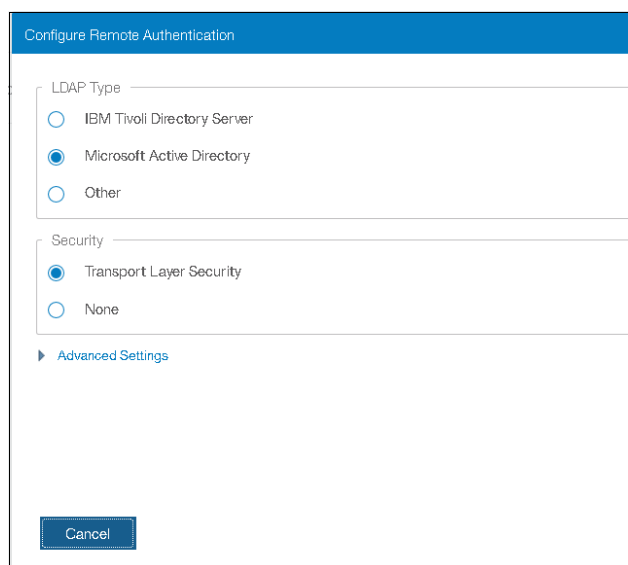

Figure 7-20 Remote Authentication wizard (step 1 of 3)
2. In the Configure Remote Authentication window (see Figure 7-20), select **Microsoft Active Directory**, for Security, select **Transport Layer Security**, and then, click **Advanced Settings** to expand it.